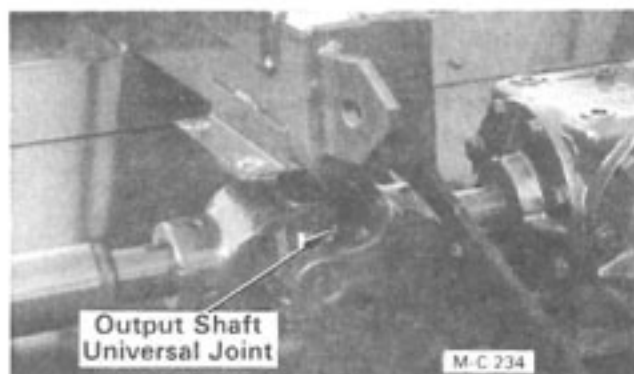

Figure 17
4. Output shaft universal joint, see Figure 17. Located under the output shaft guard.